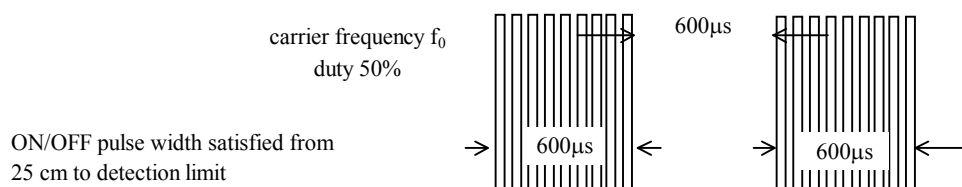

Fig 1. Burst Wave
- (1) Measuring place ..... Indoor without extreme reflection of light.
- (2) Ambient light source... Detecting surface illumination shall be 200±50Lux under ordinary hite fluorescense lamp of no high frequency lighting.
- (3) Standard transmitter ... Burst wave indicated in Fig 1. of standard transmitter shall be arranged to 50mVp-p under the measuring circuit specified in Fig 2.